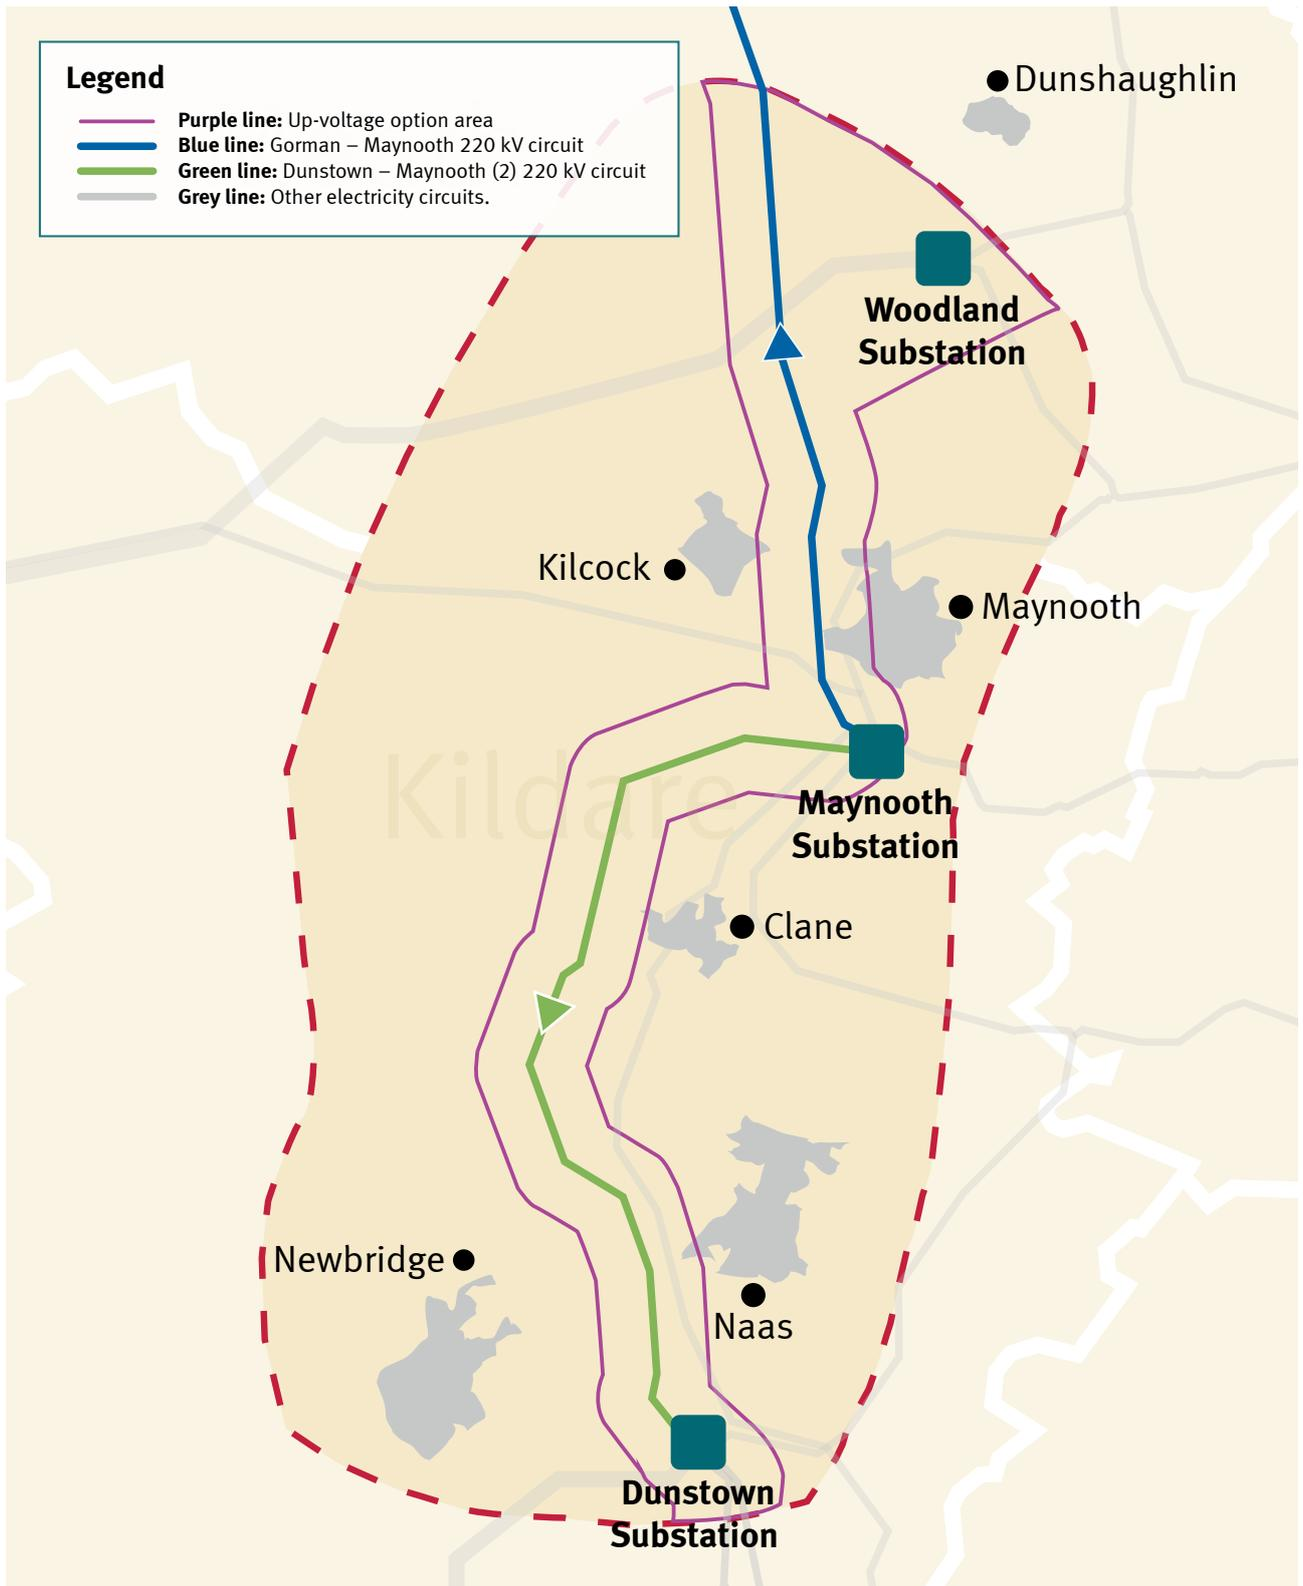

Figure 6: The up-voltage option study area in purple with the Gorman-Maynooth line and the Dunstown-Maynooth line highlighted
- Gorman – Maynooth 220 kV circuit; (blue line in figure 6)
- Dunstown – Maynooth (2) 220 kV circuit. (green line in figure 6)
This option is illustrated in figure 6.